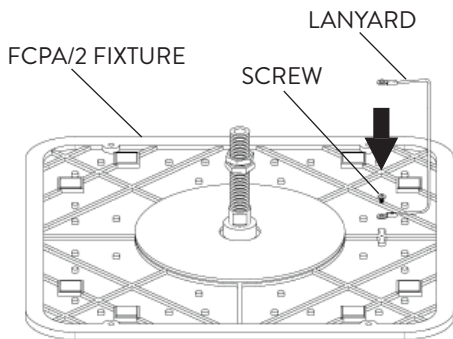
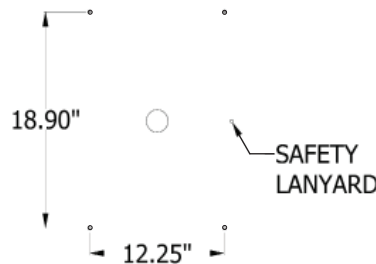
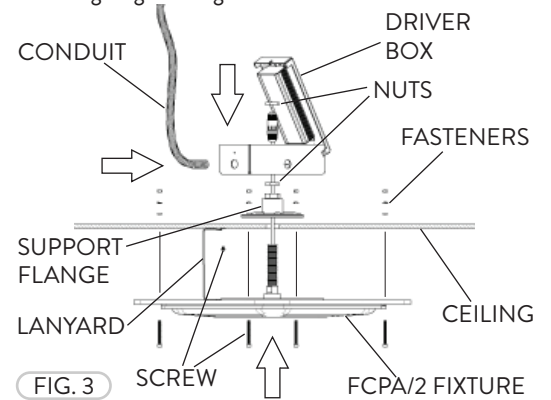

FIG. 1
FIG. 2
FIG. 3
The FCPA/2 fixture can be mounted directly to a Surface/Ceiling. Install the Safety Lanyard with a Screw near the base of the FCPA/2 (Fig. 1). Drill the hole pattern into the Surface/Ceiling to be mounted (Fig. 2). Fasten the Lanyard with a Screw to the Surface/Ceiling. Fasten the FCPA/2 fixture to the Surface/Ceiling with the Screws and Fasteners (Washers, Lockwashers, and Nuts). Install the Support Flange from the other side of the Ceiling and the Driver Box with the Nuts (2) on the inside and outside of the Box. Install the Conduit and follow the wiring diagram (Fig. 3).